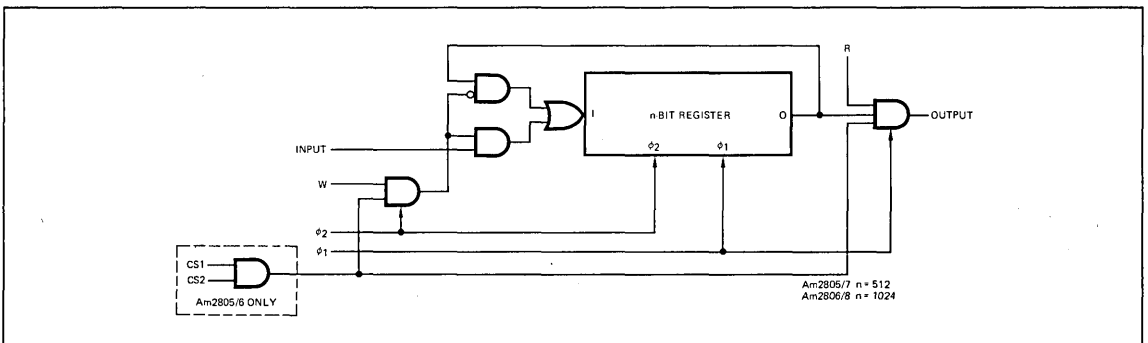

Figure 11. Functional Diagram of Am2805/6/7/8
The Am2805/6/7/8 512 and 1024-bit registers are not internally multiplexed, but require a pair of clock pulses to product a shift of one bit. These registers also have recirculation logic built-in under control of a write input (W). When the write input is HIGH, data on the input enters the register during ϕ_2 , the master clock. When the write input is LOW, the data at the output of the last bit is written into the first bit instead. The functional diagram is shown in Figure 11. A read control, R, gates the output through an open drain AND gate, so that the outputs of several registers can be ORed together and one register selected. The Am2805 and Am2806 also have a two-input chip select gate; both inputs must be HIGH in order to write into or read from the register. If either chip select input is LOW, the register recirculates.